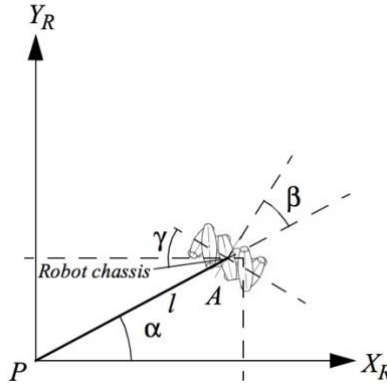

Figure 2: Swedish Wheel Setup
In the left-hand side is the total motion along the wheel plane, and the right-hand side is the motion from spinning the wheel. Now, to extend this to the Swedish wheel, **figure 2** is inspired from a Carnegie Mellon paper (1).